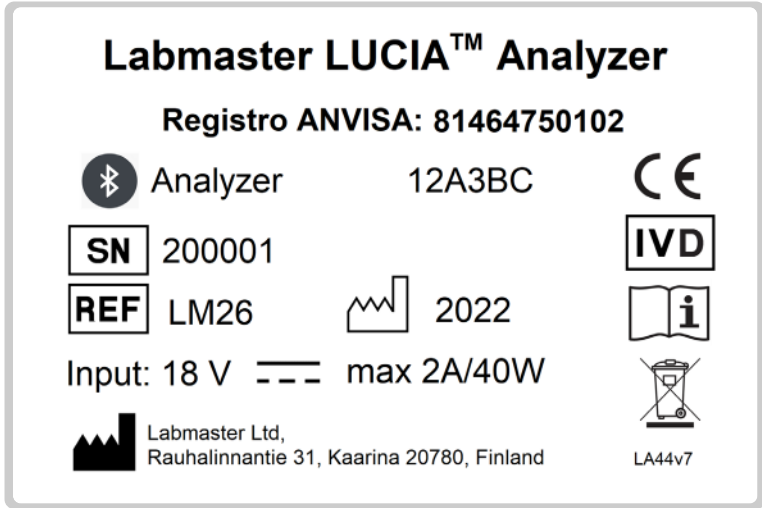

Figure 1. An example of Labmaster LUCIA™ Analyzer machine label
**Caution:-** Before the LUCIA™ Analyzer is used for the first time, operator must ensure that the electrical specification shown on the LUCIA™ Analyzer machine label is suitable for the country/region in which the analyzer will be operated. See Figure 1.